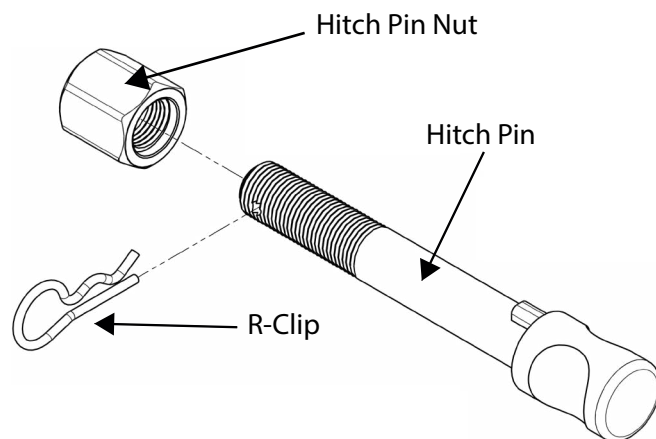

Fig 1. Silent Anti-Rattle Hitch Pin assembly
STEP 5 Install HITCH PIN R CLIP through the hole on the HITCH PIN (Fig. 1).